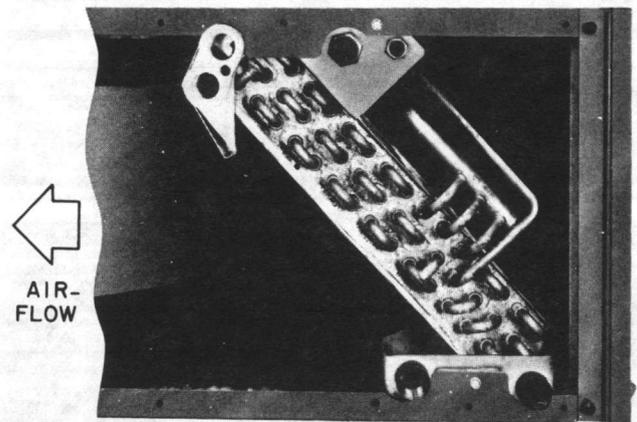

Fig. 2 — Coil Positioned for Left-Hand Discharge
- Leaving both condensate pans in place, reinstall coil in cabinet as shown in Fig. 2. Ensure the coil positioning tabs enter slots provided in rear of cabinet.